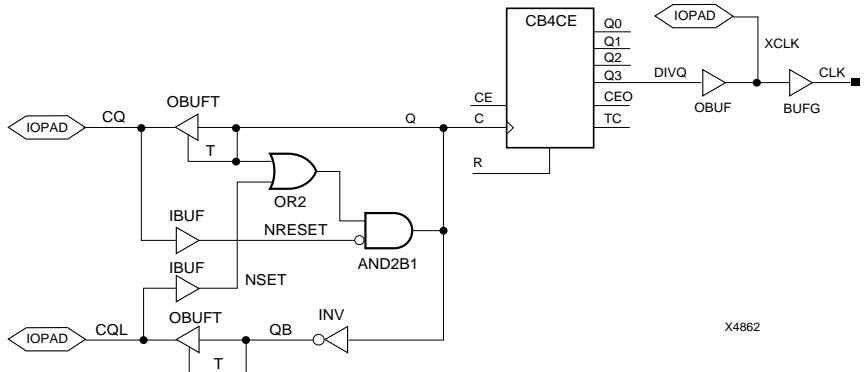

Figure 2-2 New Viewlogic Oscillator Schematic for EPLD CALC
3. Edit the schematic so it looks like Figure 2-2: